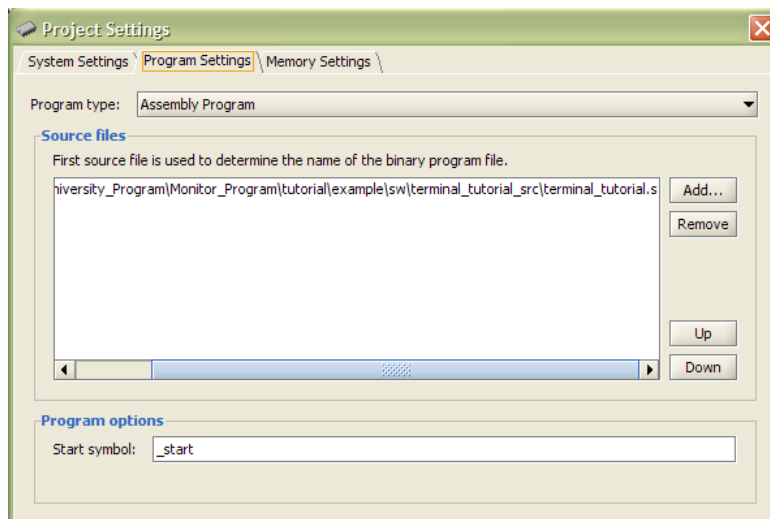

Figure 51. **Project Settings** window for the **Terminal** window tutorial.
4. This step is not required but it is useful as a demonstration to verify that the correct program is now specified. Open the **Project Settings** window by clicking on the **Settings > Program Settings...** menu item, or by clicking on the  toolbar button. You should see one source file listed, similar to Figure 51.